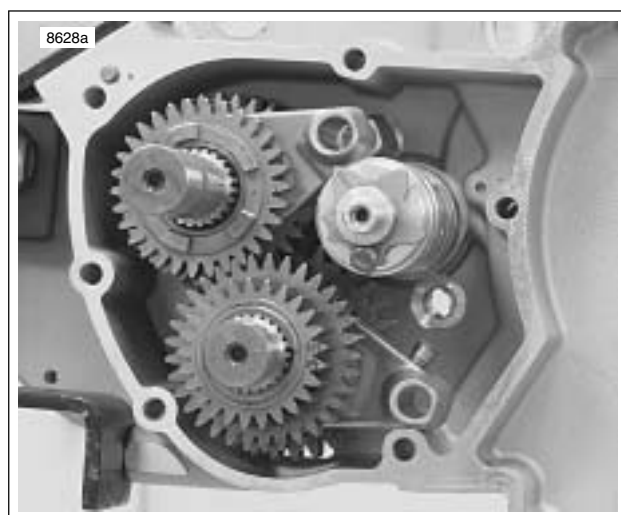

Figure 6-56. Transmission Assembly
2. See Figure 6-56. Remove shifter drum and shifter forks.